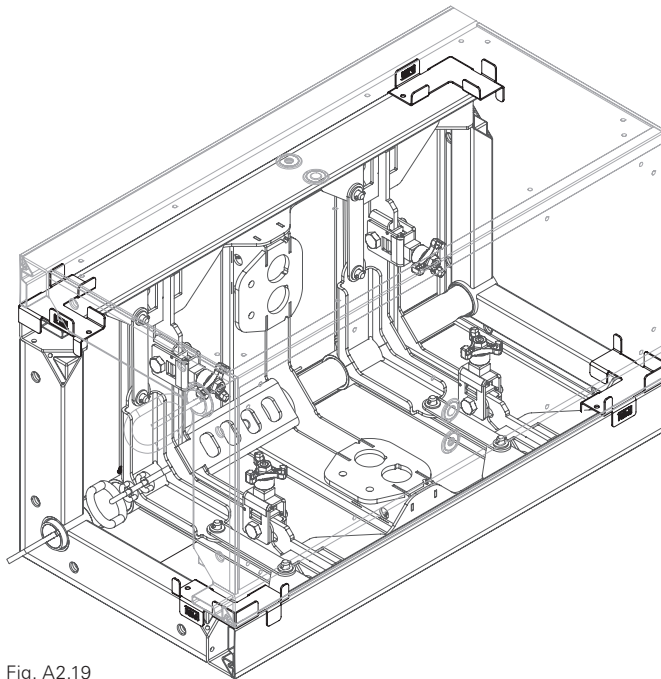

Fig. A2.19
- two shaft corners. Fit Stacking Devices MXSE flat (**13**) on the corners at the top and bottom. (Fig. A2.19)